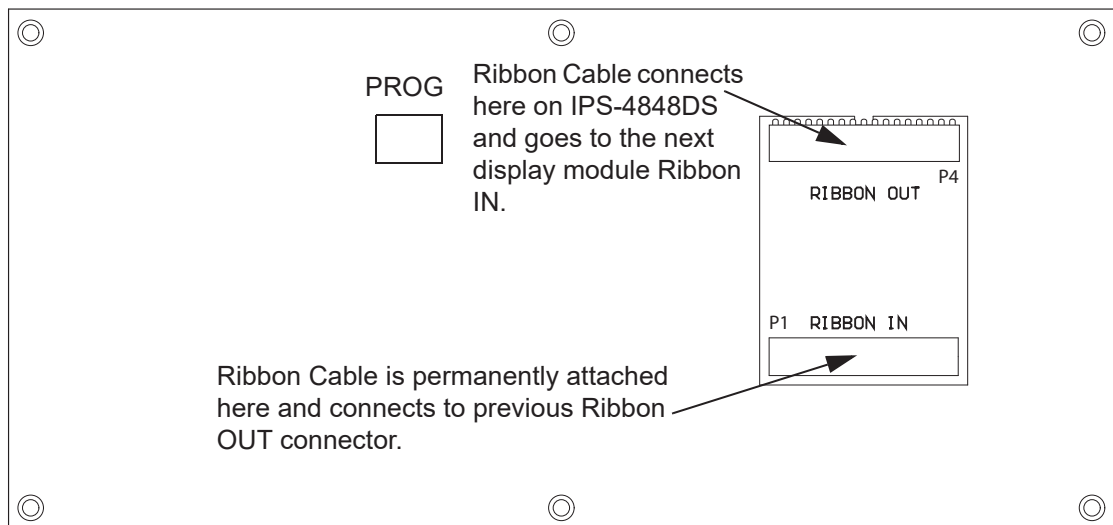

Figure 11 IPS-4848DS Cable Connections
2. Disconnect main and standby power and connect the IPS-4848DS as shown in Figure 11.